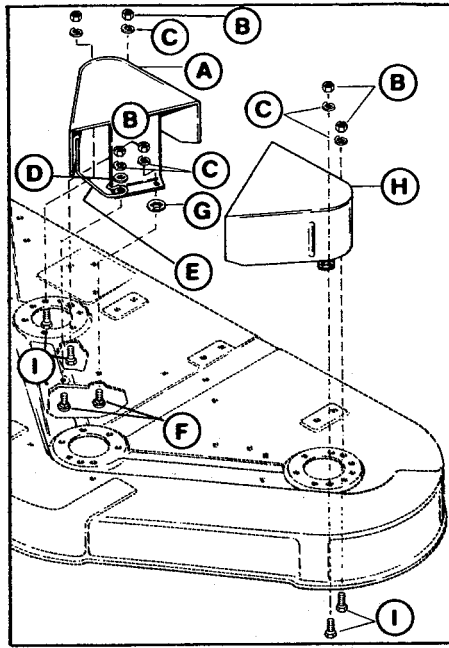

Figure 22. Arbor Covers - 48" Mowers
5. **48" mower only.** Remove both arbor covers by removing two carriage bolts in front and two capscrews in back. See figure 22. Remove attaching hardware.
8. Reinstall the arbor covers and shown in figure 22 or 23.